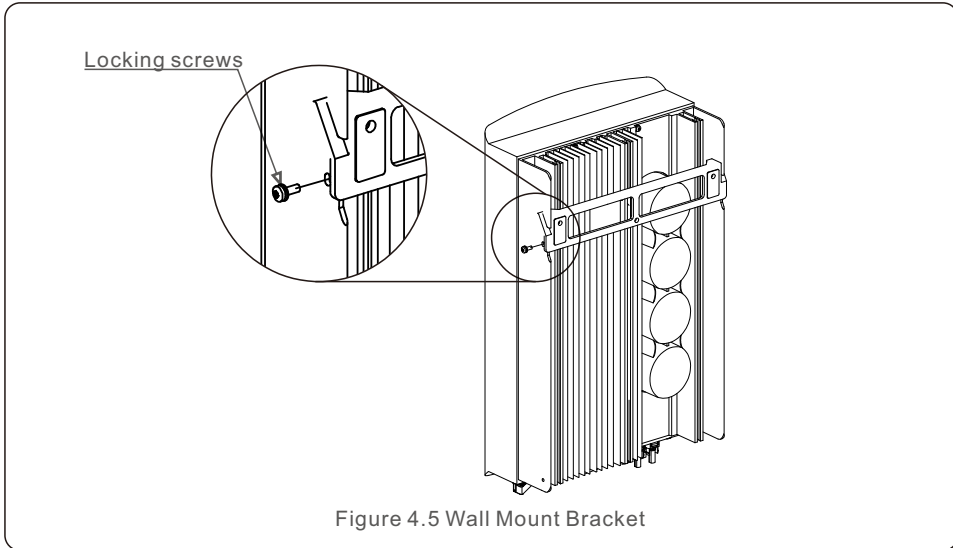

Figure 4.5 Wall Mount Bracket
Please see Figure 4.4 and Figure 4.5 for instruction on mounting the inverter. The inverter shall be mounted vertically. The steps to mount the inverter are listed below.
4. Lift up the inverter (be careful to avoid body strain), and align the back bracket on the inverter with the convex section of the mounting bracket. Hang the inverter on the mounting bracket and make sure the inverter is secure (see Figure 4.5).